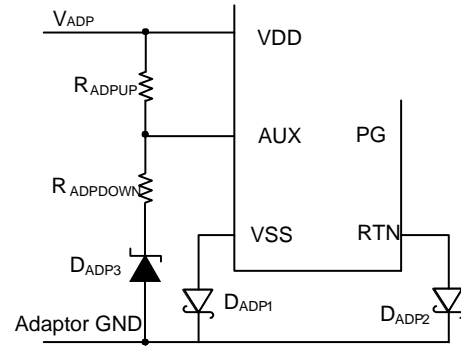

Figure 7: Wall Adaptor Detection Circuit
When an auxiliary power source such as a wall power adapter is used to power the device, the divider resistors R_{ADPUP} , $R_{ADPDOWN}$ and D_{ADP3} must be chosen as shown in figure 7 to satisfy the Equation (1) for correct wall power adaptor detection.